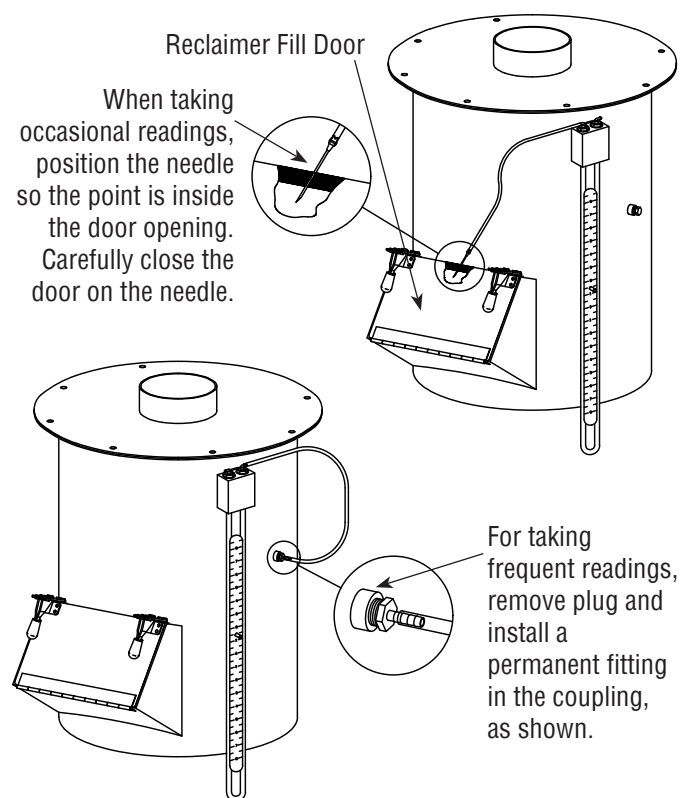

Figure 2
NOTE: These instructions and the illustrations in **Figure 2** show two methods for taking static-pressure readings (negative pressure) on Series reclaimers. Use the method best suited for the application. The instructions explain the processes for taking occasional readings and show how to install a fitting in the reclaimer body for taking frequent readings. Taking readings at different locations could produce slightly different readings. The readings are reference points, so readings should be taken using the same method each time they are taken.
5.3.4 | Attach the manometer at a convenient location, as shown in the example in **Figure 2**. Magnets on the manometer hold it onto any metal surface on the power module. The manometer must be vertical, so the fluid is level on both sides.
5.3.6.1 | A needle used to take occasional readings is provided with the manometer kit. Leave the needle protector on the needle and insert the needle into the unused end of the manometer tubing. The ends of the tubing must fit tightly on the manometer and needle, as leaks will give inaccurate readings. Open the reclaimer's media fill door, remove the needle protector, and place the needle so the point is inside the door opening. Carefully close the door on the needle. The side of the needle embeds into the rubber door gasket, as shown in **Figure 2**, creating an airtight seal. Proceed to Paragraph 5.3.8 to take readings.
5.3.7.1 | Remove the pipe plug from the 1/4" NPT coupling located on the side of the reclaimer. Apply thread sealant to the male threads of the 1/4" NPT barb fitting provided with the manometer, and install the fitting into the coupling, as shown in **Figure 2**.